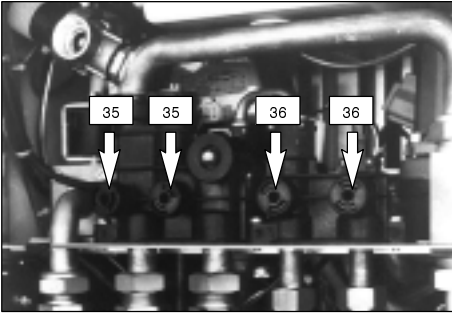

fig. 6.4
- 2 Loosen the domestic hot water circuit drain cocks (36 in fig. 6.4).
- 2 Loosen the boiler drain cocks (35 in fig. 6.4).